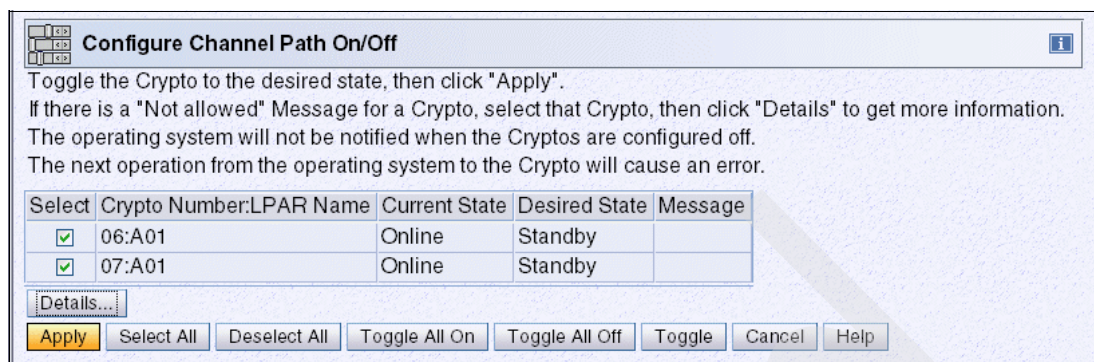

Figure 8-39 SE Crypto Config On/Off (Online to Standby)
- After confirming that the desired state for your requested crypto channel is Standby, click the **Apply** button (Figure 8-39 on page 362).